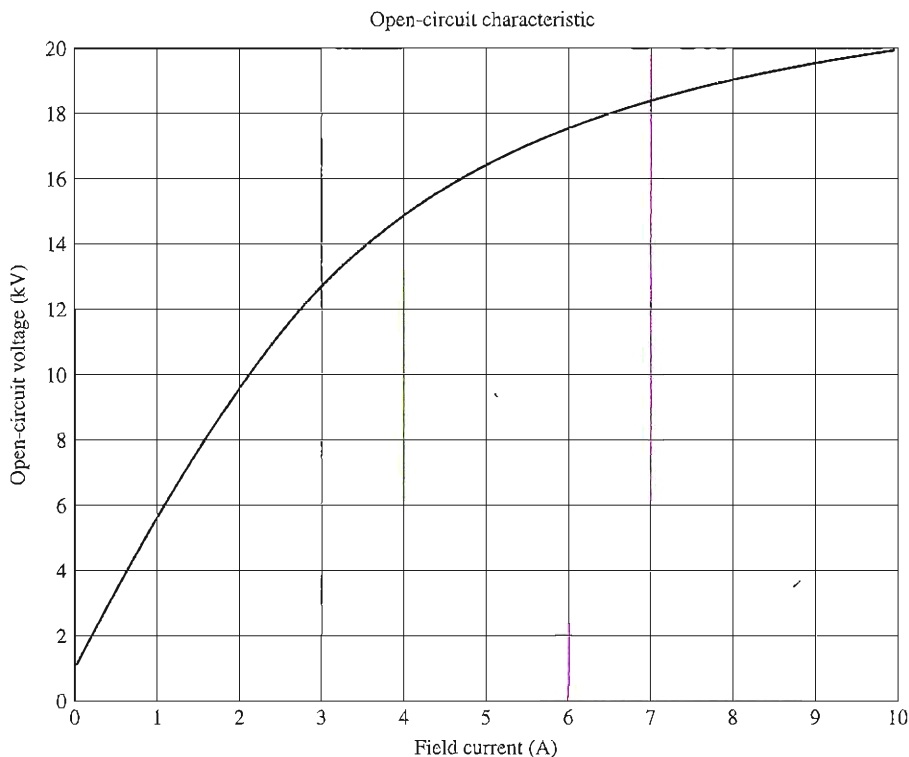

FIGURE P4-1
- 4-2. A 13.8-kV, 50-MVA, 0.9-power-factor-lagging, 60-Hz, four-pole Y-connected synchronous generator has a synchronous reactance of $2.5\ \Omega$ and an armature resistance of $0.2\ \Omega$. At 60 Hz, its friction and windage losses are 1 MW, and its core losses are 1.5 MW. The field circuit has a dc voltage of 120 V, and the maximum I_f is 10 A. The current of the field circuit is adjustable over the range from 0 to 10 A. The OCC of this generator is shown in Figure P4-1.